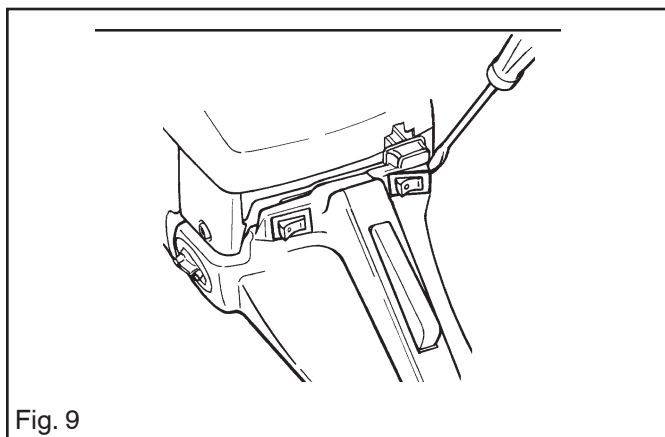

Fig. 9
Separate the cable connection at B. See fig. 10. Remove the switch with a screwdriver. See fig. 9. Set the switch to position "0". Clean the contacts D, E, F and G. See fig. 10. Measure the resistance between point B and F, between D and C and between E and C. See fig. 10. The resistance for both heating elements should be 0.6-2.4 ohms. Between D and C and between E and C the resistance should be 0.3-1.2 ohms. Replace the element if the values deviate.
1. Remove the switch and disconnect the cables. See fig. 9.